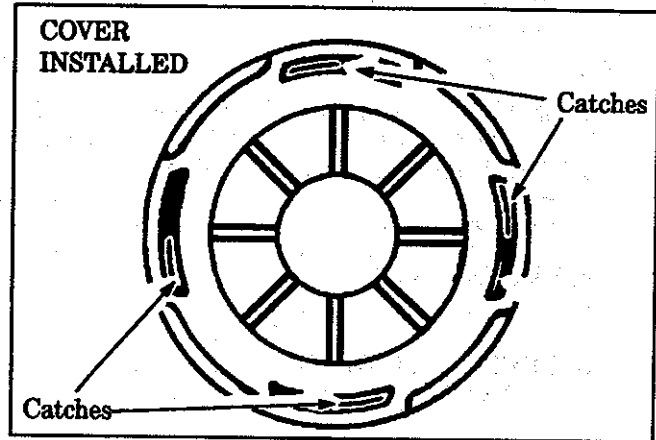

Figure 24
- Align the four Catches on the Hub with the cutouts in the Cover. Figure 24 .